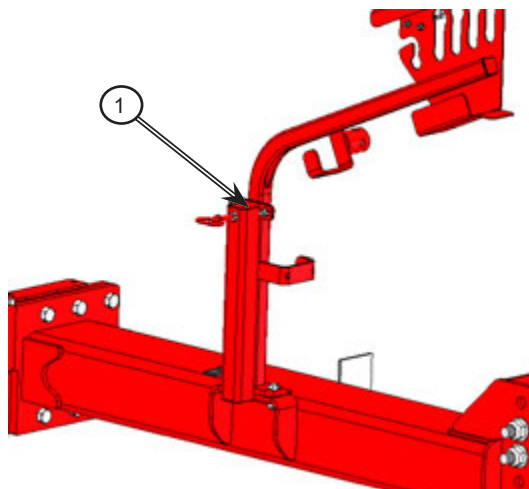

Figure 4.14: Pry bar holder
- i. A pry bar can be stored in the pry bar holder (1) that is mounted to the hose holder; see Figure 4.14.